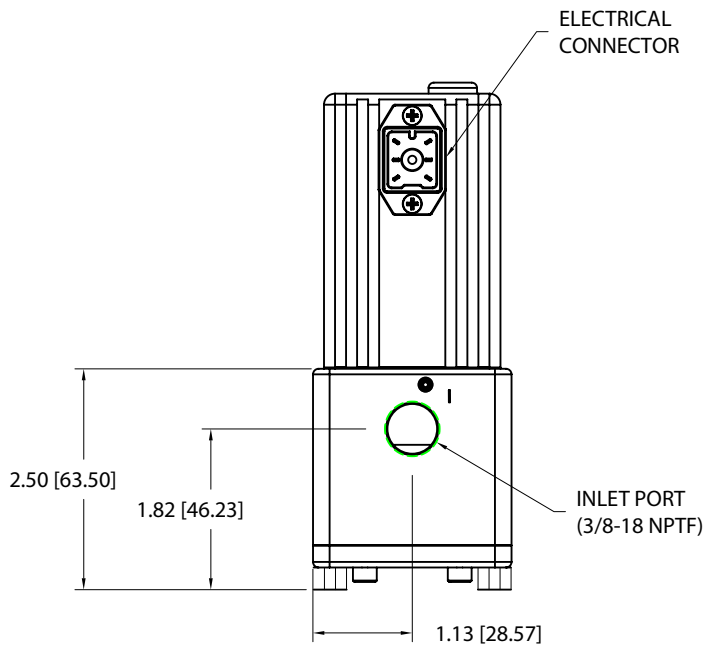

Figure 1
1. Connect supply pressure to the inlet port (Figure 1) not to exceed the rated supply pressure. (See Table 1)
2. Connect supply pressure to the inlet port (Figure 1) not to exceed the rated supply pressure. (See Table 1). **Positive supply pressure is required on vacuum and vacuum through positive pressure QB3H units.** (Call factory with questions.)